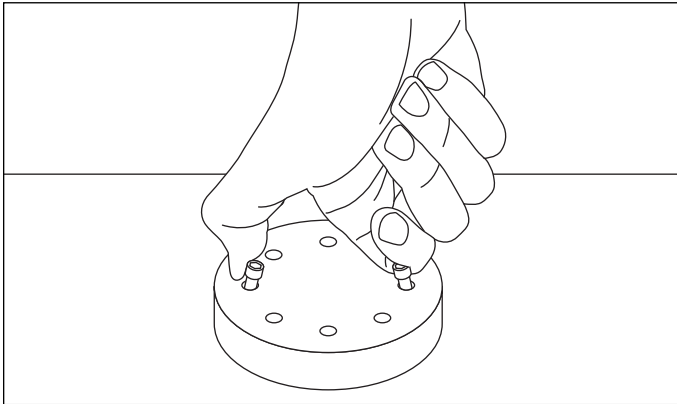

Figure 4.3: Piston head removal
- Loosen the piston head bolts and remove the piston head as shown in figure 4.3 by pinching two loose bolts together.
- To replace the first or second stage piston,** remove the piston head by loosening and removing the socket head bolts holding the piston head to the piston platform (see Figure 4.3).